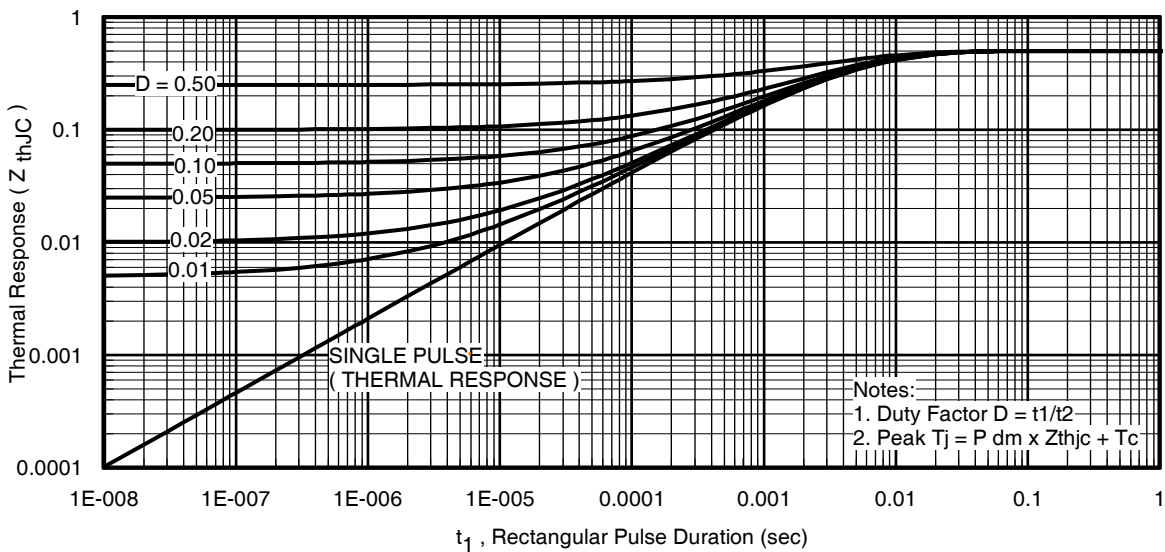
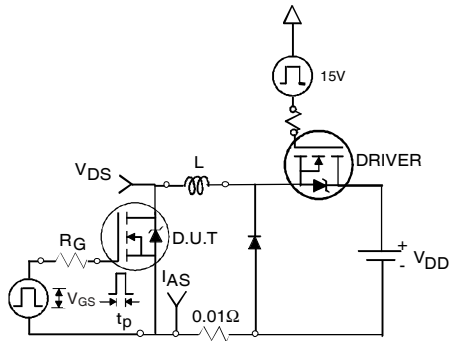

Fig 11. Maximum Effective Transient Thermal Impedance, Junction-to-Case
Fig 12a. Unclamped Inductive Test Circuit
- ① Repetitive rating; pulse width limited by max. junction temperature. (See fig. 11).
- ② Limited by T_{Jmax} , starting $T_J = 25^\circ\text{C}$, $L=0.24\text{mH}, R_G = 25\Omega, I_{AS} = 75A, V_{GS} = 10V$. Part not recommended for use above this value.
- ③ $I_{SD} \leq 75A, di/dt \leq 220A/\mu s, V_{DD} \leq V_{(BR)DSS}, T_J \leq 175^\circ\text{C}$.
- ④ Pulse width $\leq 1.0\text{ms}$; duty cycle $\leq 2\%$.
- ⑤ $C_{oss\text{ eff.}}$ is a fixed capacitance that gives the same charging time as C_{oss} while V_{DS} is rising from 0 to 80% V_{DSS} .
- ⑥ Limited by T_{Jmax} , see Fig.12a, 12b, 15, 16 for typical repetitive avalanche performance.
- ⑦ This value determined from sample failure population. 100% tested to this value in production.
- ⑧ This is applied to D²Pak, when mounted on 1" square PCB (FR-4 or G-10 Material). For recommended footprint and soldering techniques refer to application note #AN-994.
- ⑨ Max $R_{DS(on)}$ for D²Pak and TO-262 (SMD) devices.
- ⑩ TO-220 device will have an R_{th} value of 0.45°C/W .
3. Equation below based on circuit and waveforms shown in Figures 12a, 12b.
$Z_{thJC}(D, t_{av})$ = Transient thermal resistance, see figure 11)